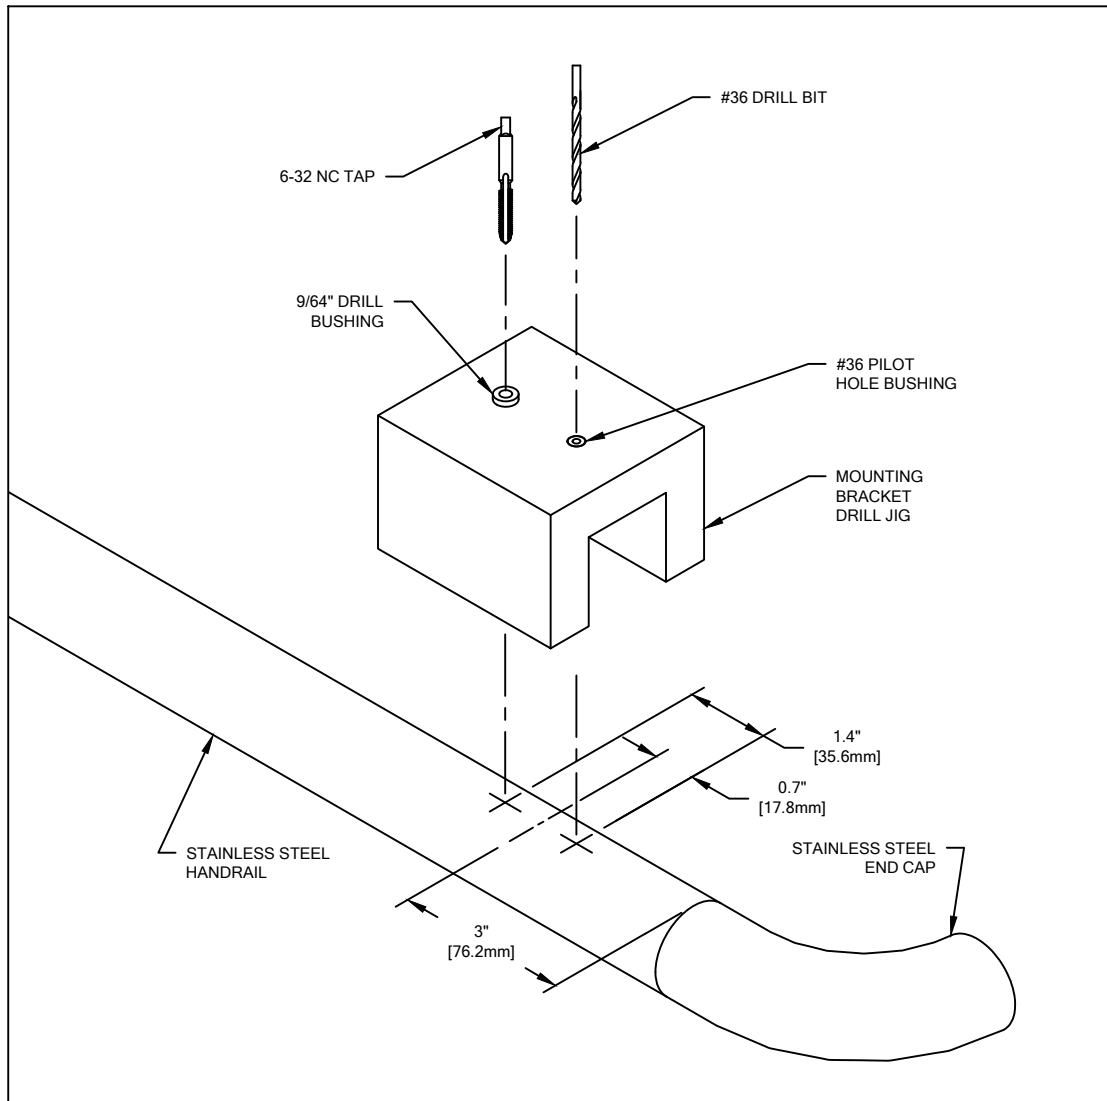

FIGURE 2.
- DRILL PILOT HOLES IN BOTTOM SURFACE OF STAINLESS STEEL HANDRAIL AS PER MOUNTING BRACKET DRILL JIG INSTRUCTIONS (SEE FIGURE 2). MOUNTING BRACKETS ARE TO BE LOCATED AT A MAXIMUM OF 32" [812.8mm] O.C. AND NO LESS THAN 3" [76.2mm] FROM END OF STAINLESS STEEL HANDRAIL. CAUTION: BE SURE THE HANDRAIL DOES NOT ROTATE WHEN DRILLING PILOT HOLE.
5. FASTEN THE STAINLESS STEEL HANDRAIL TO THE WALL BRACKETS IN SUCCESSION BY INSERTING TWO (2) #6-32 X 3/4" S/S PHILLIPS FLAT HEAD MACHINE SCREWS THROUGH THE UNDERSIDE OF THE BRACKET INTO THE STAINLESS STEEL HANDRAIL.
MOUNTING BRACKET DRILL JIG INSTRUCTIONS. REFER TO FIGURE 2.